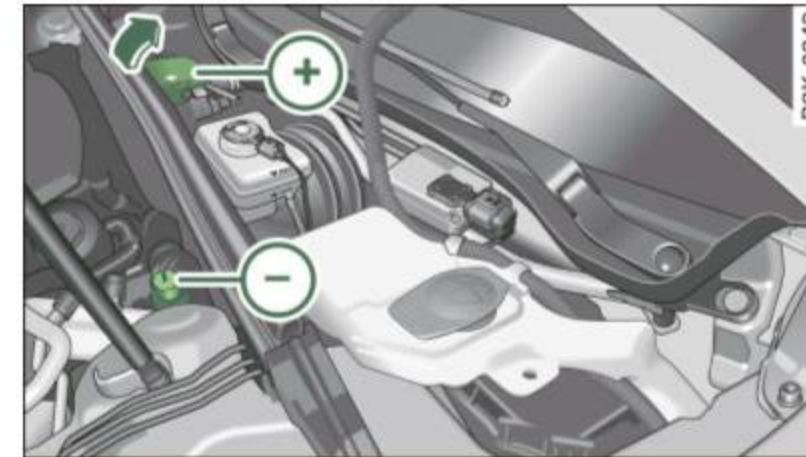

Fig. 232 Engine compartment: Connectors for jumper cables and charger
- Open the red cover on the positive pole ⇒ *page 329*, fig. 232.